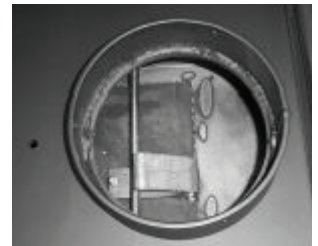

Fig. 13
2. Remove the flue pipe from the appliance in order to have a clear view of the bypass door (**Fig. 13**).